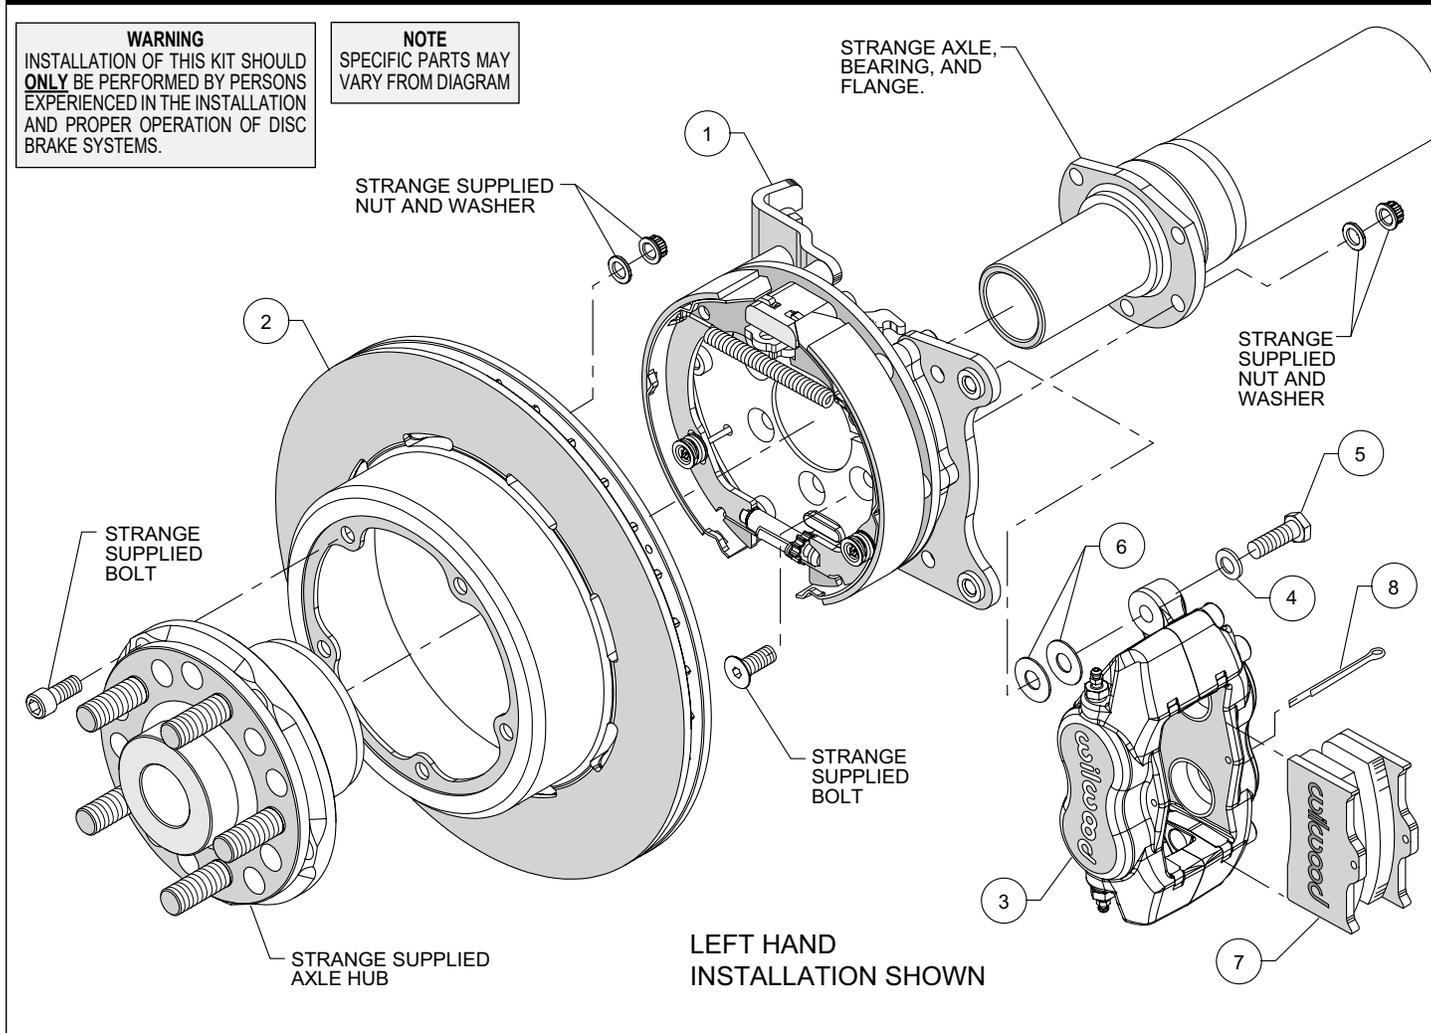
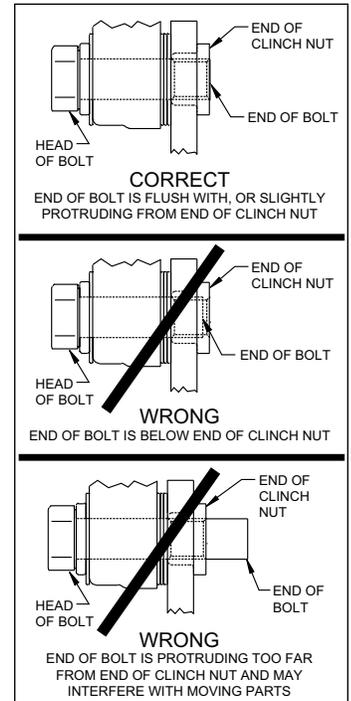

Figure 1. Typical Installation Configuration
Figure 3. Clinch Nut Engagement Diagram
NOTE: Numbers in parenthesis refer to the parts list and Figure 1 on the preceding pages.
CAUTION: All mounting bolts must fully engage clinch nuts. Be sure to check that all bolts are either flush or protruding through flanged side of clinch nut after shimming, Figure 3.
- Orient the bracket assembly (1) as shown in Figure 1 and slide it onto the axle. Ensure that the bracket assembly backing plate fits flush against the axle housing flange. Mount the bracket assembly to the axle flange using bolts, washers, and nuts (all Strange supplied) as shown in Figure 1. Apply red *Loctite*® 271 to the bolt threads and torque to Strange specifications.
- Orient the rotor (2) and the axle hub (Strange supplied) as shown in Figure 1. Attach the rotor to the axle hub using bolts, washers, and nuts (all Strange supplied) as shown in Figure 1. Apply red *Loctite*® 271 to the bolt threads and torque to Strange specifications.
- Slide the rotor/hub assembly onto the axle as shown in Figure 1 and secure per Strange specifications.
- NOTE:** Please reference the caution statement at the beginning of the assembly instructions. Mount the caliper (3) onto the caliper mounting bracket (1) using bolts (5) and washers (4), as shown in Figure 1. Initially place two .035" thick shims (6) on each bolt between the caliper and the bracket, Photo 1. Temporarily tighten the mounting bolts and view the rotor (2) through the top opening of the caliper. The rotor should be centered in the caliper, Photo 2. If not, adjust by adding or subtracting shims between the bracket and the caliper. Always use the same amount of shims on each of the two mounting bolts. **NOTE:** The end of each bolt must be flush with or slightly protruding from the head of the clinch nut, as shown in Figure 3. If necessary place spare shims between washer (4) and caliper mounting ear to achieve the proper clinch nut engagement. Once the caliper alignment and clinch nut engagement are correct, remove the bolts one at a time, apply red *Loctite*® 271 to bolt threads, and torque to 40 ft-lb.
- Install the disc brake pads (7) into the caliper, with the friction material facing the rotor (2), and secure in place using cotter pin (8), Photo 3.
- NOTE:** Clevis and cable kits which attach to the parking brake assembly are not included in the Wilwood parking brake kit. Wilwood offers a generic style parking brake cable kit, P/N 330-9371 for this application which can be ordered separately from your local Wilwood dealer or by calling Wilwood customer service at (805) 388-1188.
- Before final installation of the wheel, remove the rubber grommet in the bracket kit assembly (1) and adjust the parking brake shoes outward (using a drum shoe adjustment tool available at your local auto parts store) while spinning the rotor/hub (2) until